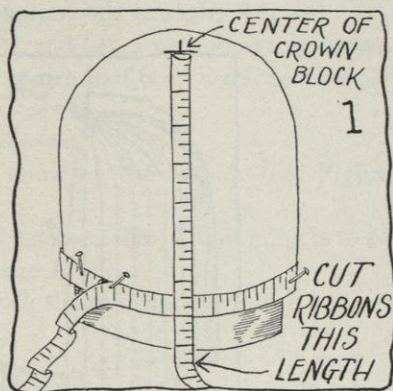

FIG. 1.
- a. Secure a block which has the necessary headsize measurement. The block should measure $\frac{1}{2}$ inch larger than the headsize of the wearer (see Figure 1, Job 1, page 3) or $\frac{1}{2}$ inch larger than the headsize of the brim (see Figure 2, Job 40, page 158).
- (1) Measure the block from front to back (see Figure 1 *A* of Job 39, page 155).
- (2) Divide this measurement in half.
- (3) Put a pencil mark at the point that indicates the half mark of the front-to-front measurement (see Figure 1).
- (4) Measure block from side to side (see Figure 1 *B* of Job 39, page 155).
- (5) Divide this measurement in half.
- (6) Put a pencil mark at the point that indicates the half mark of the side-to-side measurement (see Figure 1).
- (7) The point where the pencil marks cross is the direct center of the crown tip of the block.
- (1) Measure the block from the center point of the crown tip to the base, wherever the crown is widest (see Figure 1). The tape measure must run vertically.
- (2) Add $1\frac{1}{2}$ inches to this measurement (see Figure 1). This will be the length to cut the ribbon strips. Jot down this measurement.
- (1) Measure the block around the base and write down the exact measurement (see Figure 1).
- (2) Measure the width of the ribbon to be used and write down the measurement.
- (3) Deduct $\frac{1}{8}$ inch from the width of the ribbon. This is the allowance to be made for lapping the strips of ribbons at the base of the crown. Write down that measurement.
- (4) Divide the measurement of the base of the block (which you wrote down after reading Section d (1)) by the width of the ribbon, minus the $\frac{1}{8}$ inch (which you wrote down after reading Section 2 d (3)), to find out the number of ribbon strips to be cut, and jot down your answer.
- e. Multiply the measurement that you found after reading Section 2 c (2), by the answer that you wrote down after reading Section d (4). This gives you the total amount of ribbon needed.
- f. Cut the number of pieces that you need (see Section 2 d (4)) by the length that you wrote down after reading Section 2 c (2).